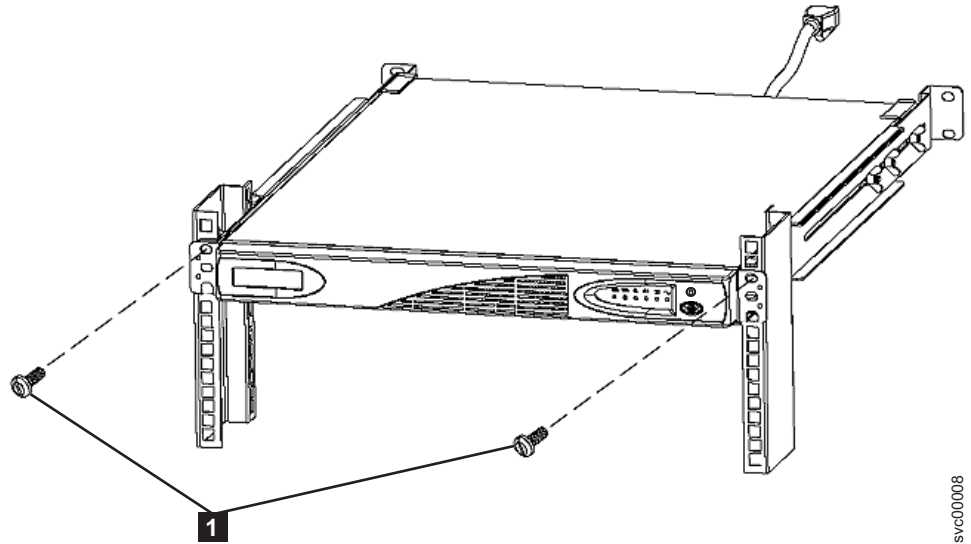

Figure 305. Mounting screws for the 2145 UPS-1U
4. At the front of the 2145 UPS-1U, install the two mounting screws (**1** in Figure 305).